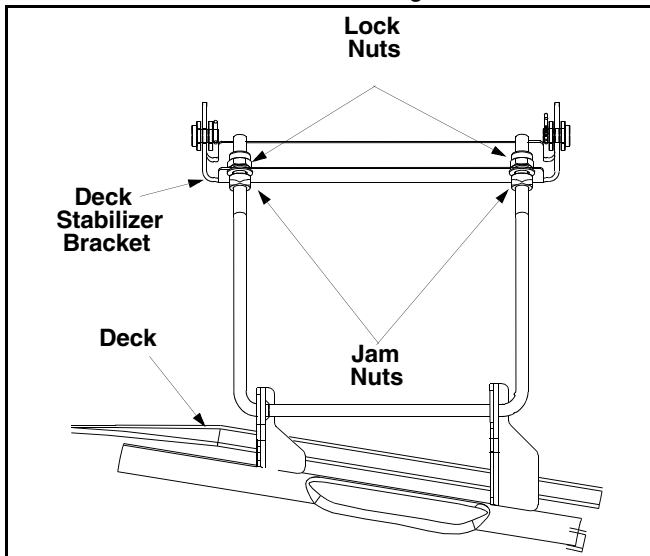

Figure 9
- Loosen the two jam nuts on the rear side of the deck stabilizer bracket. See Figure 9.
- Locate the two lock nuts on the opposite side of the stabilizer bracket. See Figure 9. Tighten the lock nuts to raise the front of the deck; loosen the lock nuts to lower the front of the deck.